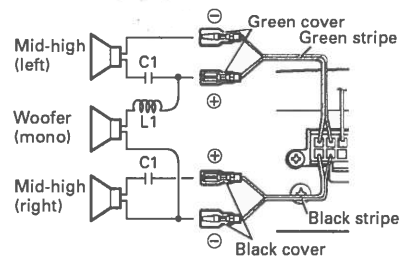

Fig. 28
The power amplifier is basically a two-channel/one-channel bridgeable amplifier, but three channels can be achieved by combining the stereo and mono modes using inductors and capacitors. See Figs. 28 and 29 for details of wiring.
- The following Figs. 28 and 29 require advanced understanding of electronics. If you do not understand the diagram, please have the work done by your nearest authorized Pioneer installation specialist.